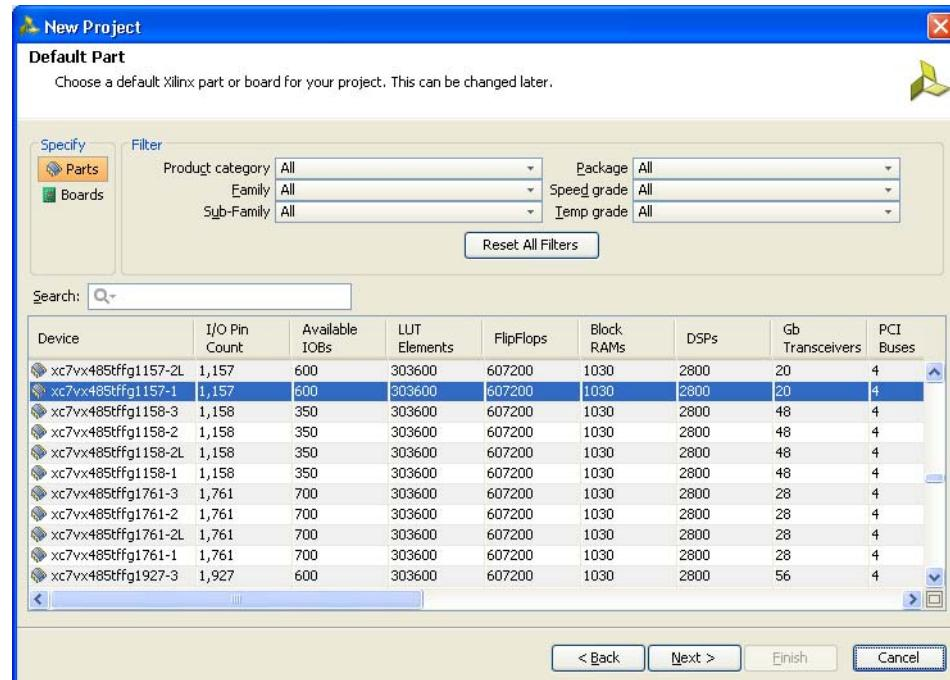

Figure 6-8: Default Part (Default Window)
- Click **Next** to proceed to the Default Part page (Figure 6-8) where the device that needs to be targeted can be selected. The default Part page appears as shown in Figure 6-8.